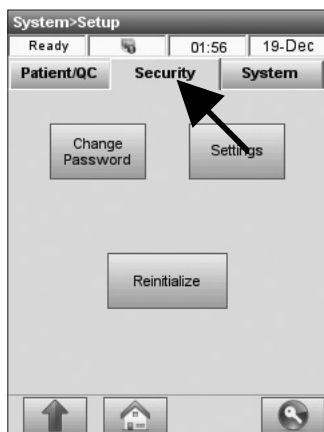

Fig. 3-50 Security
The OPTI CCA-TS2 has three types of security options (Fig. 3-50):
2. In the **<System Setup>** screen, press the **<Security>** tab (Fig. 3-50).